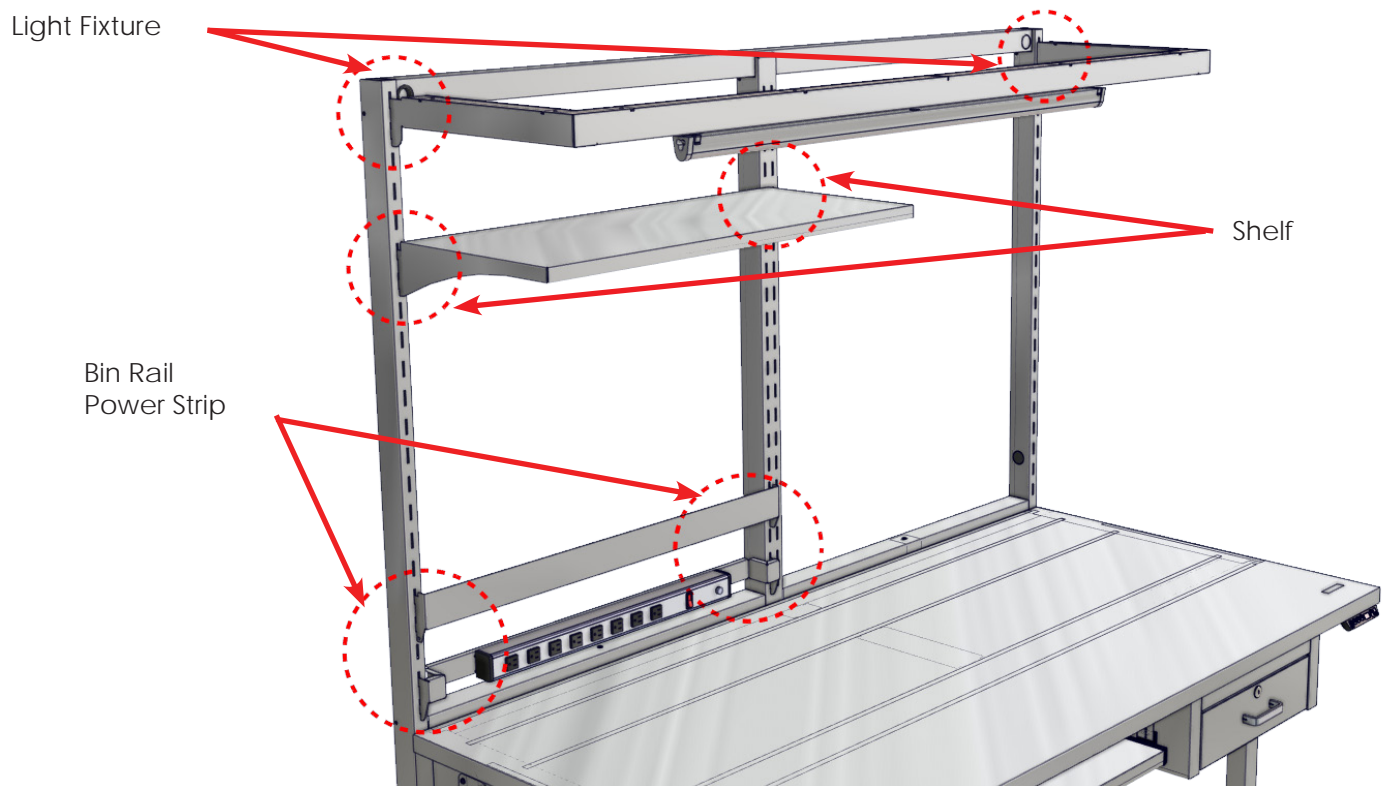

Fig. 11: Installing Light Fixture, Shelf, Bin Rail & Power Strip
13. Install the Overhead Light Bar assembly (with its light fixture) by fitting the light bar tabs into the two top slots at the top of the back frame (Figs. 11 - 12).
14. Install the Shelf by fitting its tabs into slots on the back frame (Figs. 11 - 12 - position wherever desired)
15. Install the Power Strip Assembly by fitting the tabs of the power strip hang bar into the back frame slots (Figs. 11 & 13 - position wherever desired).
16. Install the Bin Rail by fitting its tabs into slots on the back frame (Fig. 11 - position wherever desired).